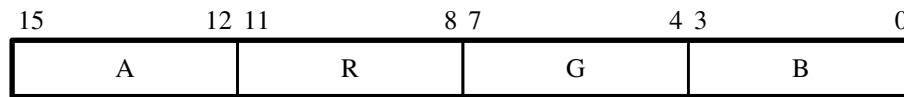

Figure 13. 16-bit RGBA Color Space.
- 16-bit RGBA — This format contains alpha values as well as RGB and uses 4 bits of each color as shown in Figure 13. This mode is defined as 4 bits per color and four color planes.